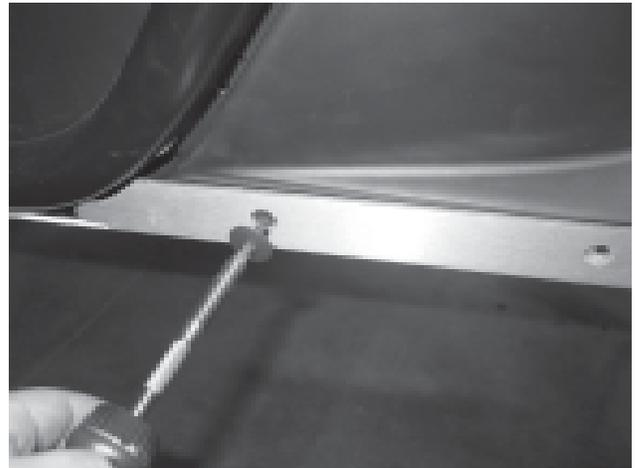

Figure 9
12. Hold backing plate in place while installing M6 fasteners. **(Figure 9)**